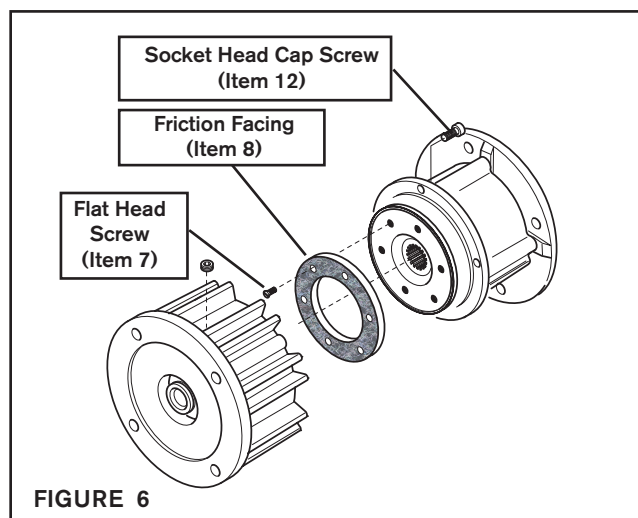

FIGURE 6
1. Remove the four Socket Head Cap Screws (Item 12) and separate the two halves of the FMCE (See Figure 6).
2. Remove the six old Flat Head Screws (Item 7) and the old Friction Facing (Item 8) (See Figure 6).
3. Install the new Friction Facing (Item 8) and new Flat Head Screws (Item 7) (See Figure 6).
5. Apply a drop of Loctite 242 to the threads of the Socket Head Cap Screws (Item 12) (See Figure 6).